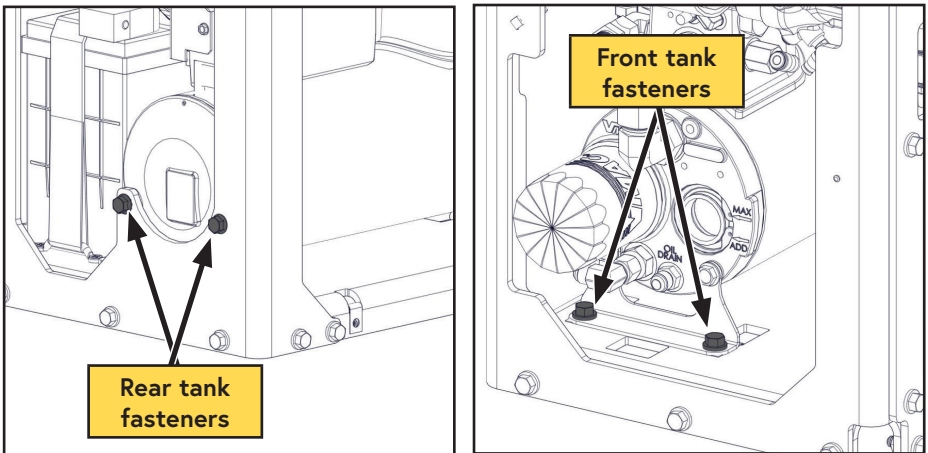

Figure 74 — Remove WHASP Tank fasteners
- Remove the (x4) fasteners from the bottom of the WHASP Tank mounting brackets (Figure 74).